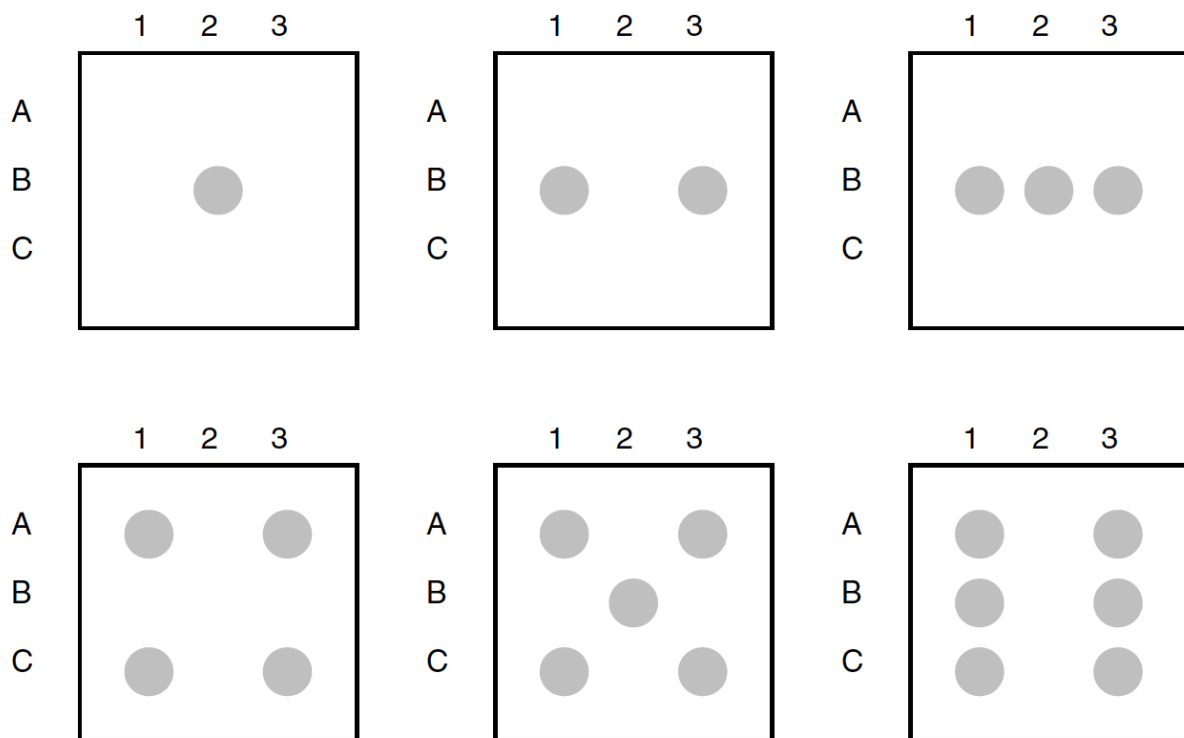
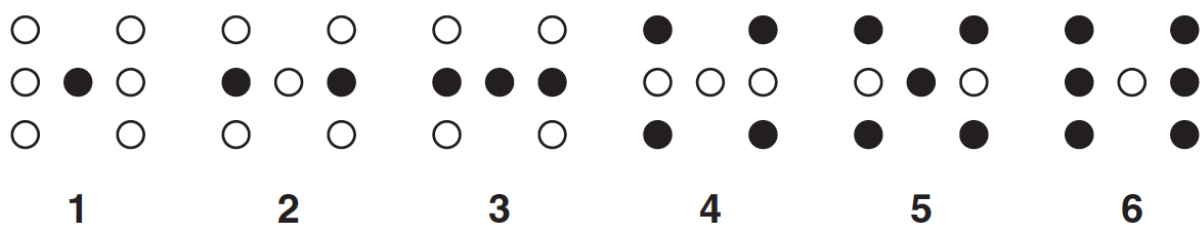

FIGURE 3. LEDs light up in this fashion for the numbers 1 to 6.
FIGURE 4. LED layout arrangement and the corresponding digits
- The device should have an input switch, and upon pressing the switch, a number (selected randomly by the controller) between 1 and 6 should be displayed. As shown in Figure 2, Figure 4 and Figure 3 the LEDs are organized such that when they turn ON, they indicate numbers as on a real dice.
- LEDs and/or switches on the schematic not properly arranged as shown in **Figure 3** ..... deduct 20%